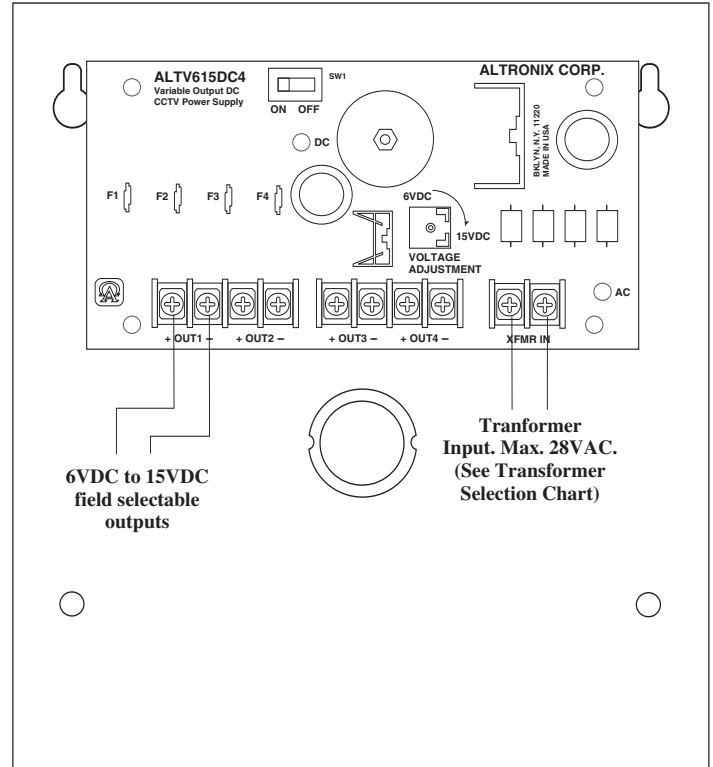

Fig. 1
- Main fuse is rated at 5 amp / 250VAC (*Fig. 1*).
2. Connect 24VAC 40VA (Model TP2440) transformer to terminals marked [XFMR IN] (*Fig. 1*)
4. Switch SW1 (*Fig. 1*) to OFF position.
5. Connect each DC CCTV cameras to terminal marked [+ OUT1 --- to + OUT4 ---] (*Fig. 1*) carefully observing correct polarity.
6. Switch SW1 (*Fig. 1*) to ON position.